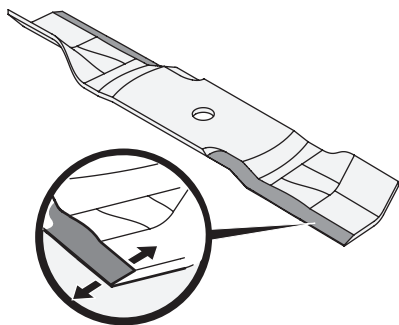

Figure 4-27
- To properly sharpen the cutting blades, remove equal amounts of metal from both ends of the blades along the cutting edges, parallel to the trailing edge, at a 25°-30° angle. Always grind each cutting blade edge equally to maintain proper blade balance. See Figure 4-27.